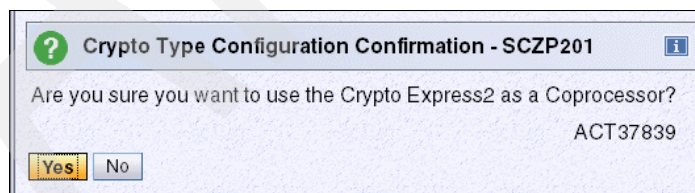

Figure 8-29 Crypto Type Configuration, message ACT37839
3. Click **Yes** in the confirmation message dialog displayed (Figure 8-29).